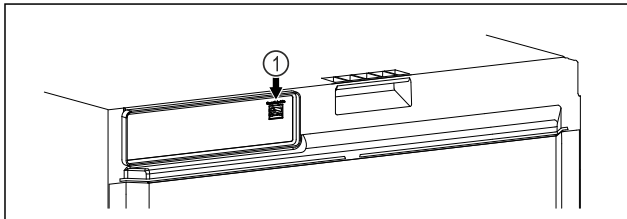

Fig. 103
- ❑ SmartModule Fig. 103 (1) has been inserted.